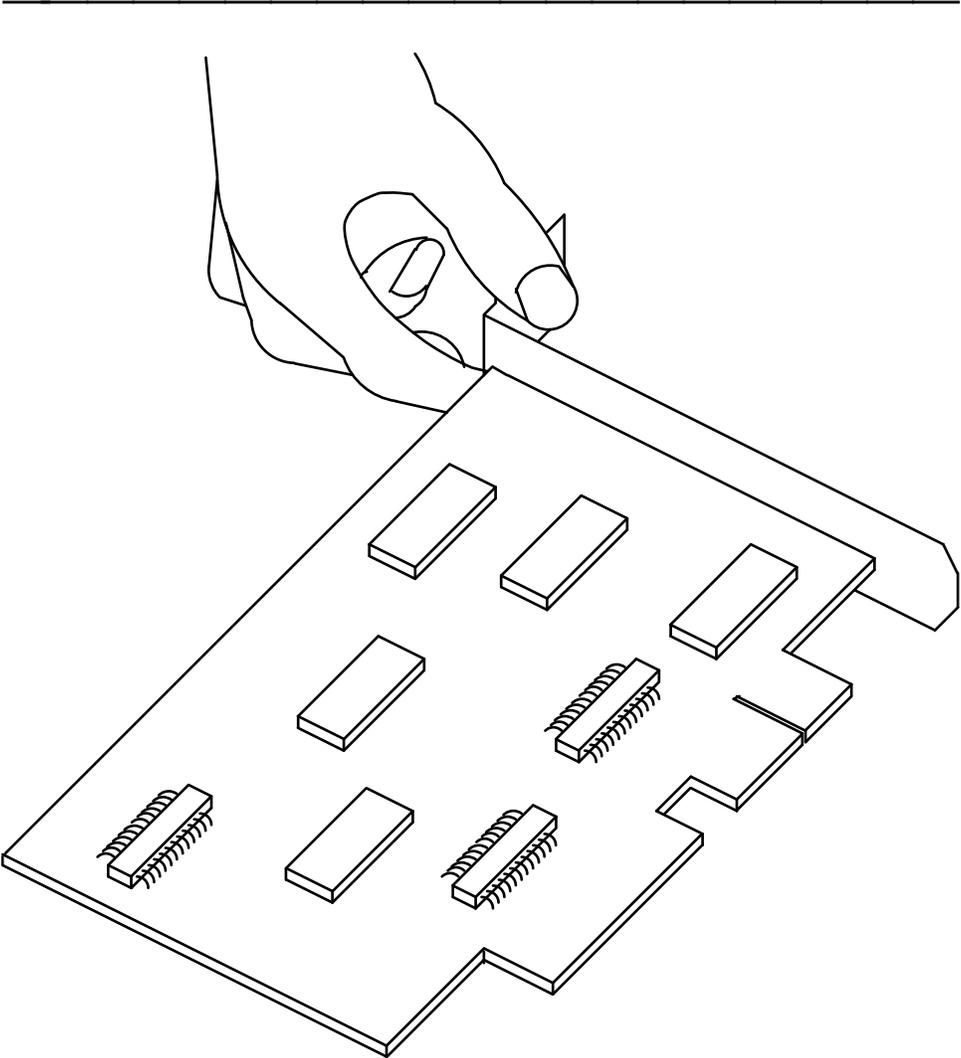

Figure 2-1. How to Hold a Short Circuit Card
- Hold a short circuit card by the faceplate only. See Figure 2-1.